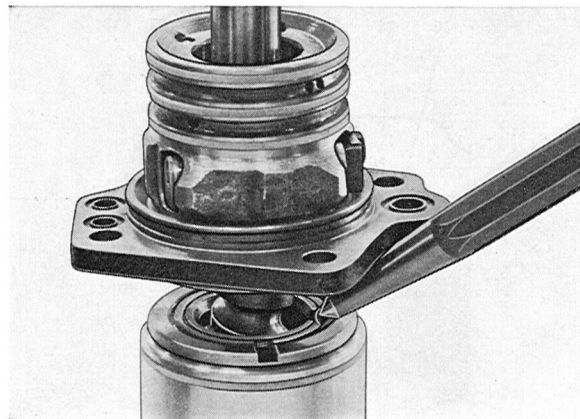

Fig. 6-97. Locking circlip
Warning! The worm must not be pulled so far out of the piston that the balls run out (into the piston). Tighten the circlip (27) and lock it, see Fig. 6-97. When doing this, protect the worm to make sure that no metal fillings get into the piston.